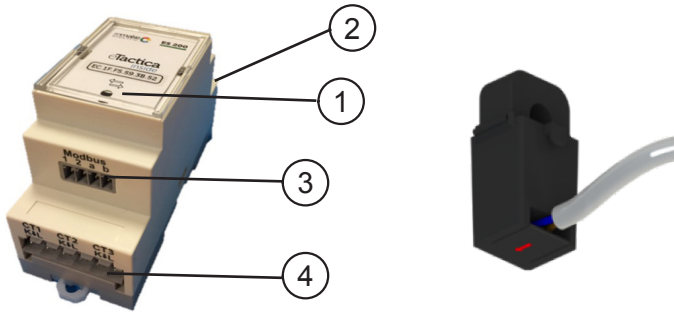

Fig. 1: Scope of delivery of the Current Meter and sensors (example: ES-200).
- ▶ Plug the cable into connectors on the Current Meter (pos. 2 and 4 in Fig. 1)
- ▶ Connect the cable to the Current Meter (pos. 3 in Fig. 1).
A LED light (pos.1 in Fig. 1) indicates the status according to the following: